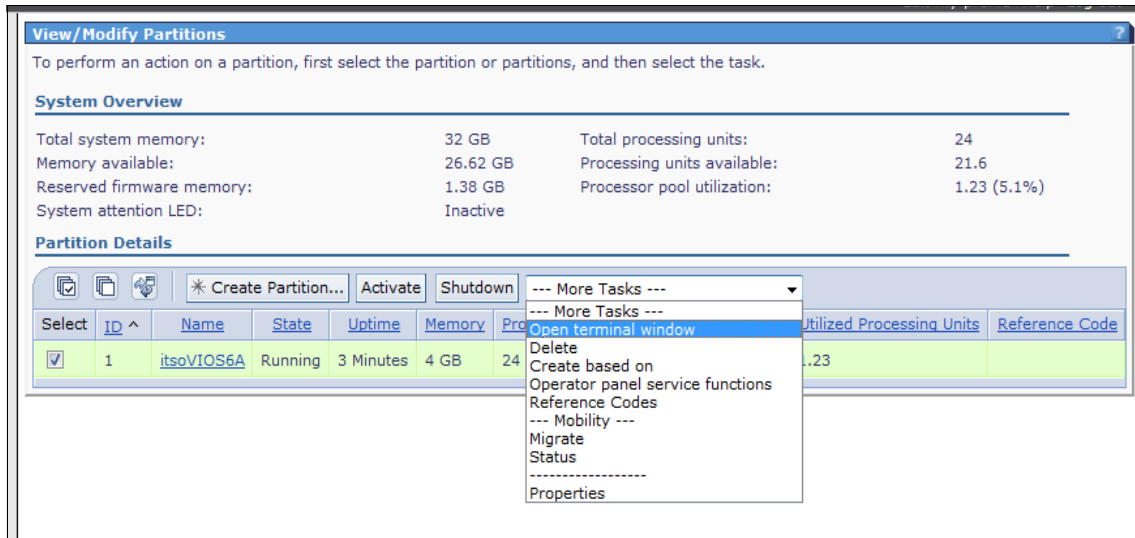

Figure 7-149 IVM option to open terminal window to an LPAR
2. Click **More Tasks** → **Open terminal window**, as shown in Figure 7-149.